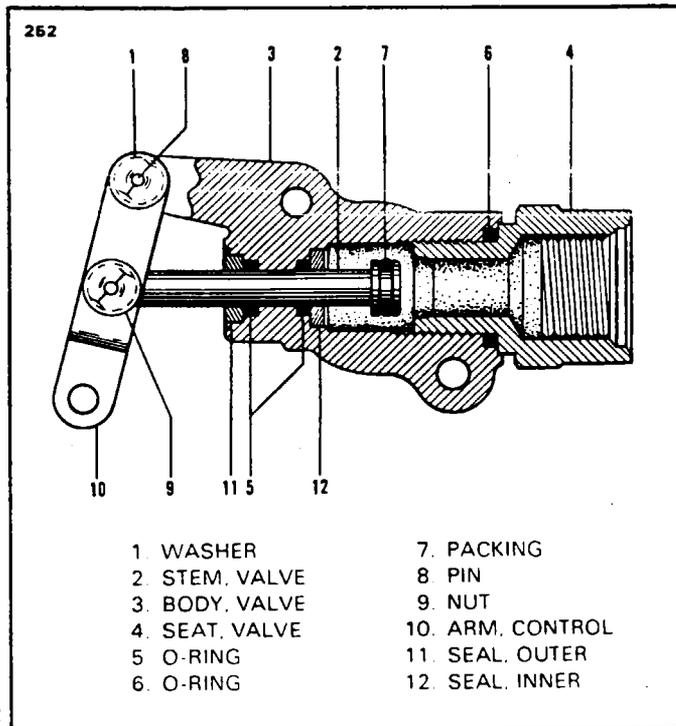

Figure 28-9. Crossfeed Valve
**FUEL VALVES.** (Refer to Figures 28-9 and 28-10.)
**DISASSEMBLY OF CROSSFEED VALVE AND FUEL SHUTOFF VALVE.** (Refer to Figures 28-9 and 28-10.)
**ASSEMBLY OF FUEL SHUTOFF AND CROSSFEED VALVE. (Refer to Figures 28-9 and 28-10.)**